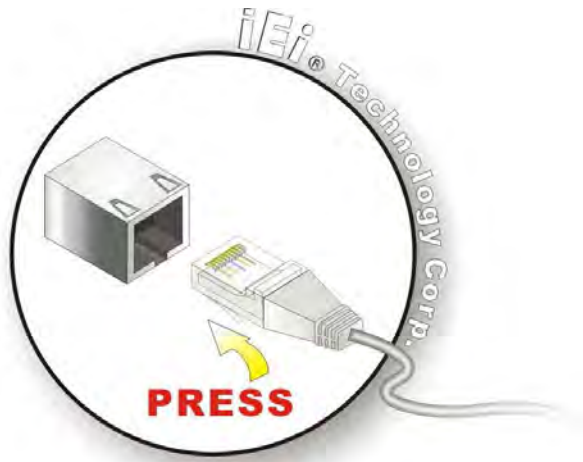

Figure 3-9: LAN Connection
Step 1: **Align the connectors.** Align the RJ-45 connector on the LAN cable with one of the RJ-45 connectors on the IOVU-430M. See **Figure 3-9**.